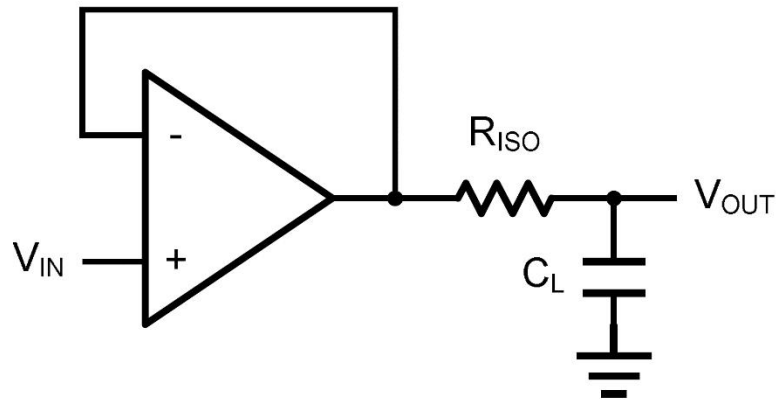
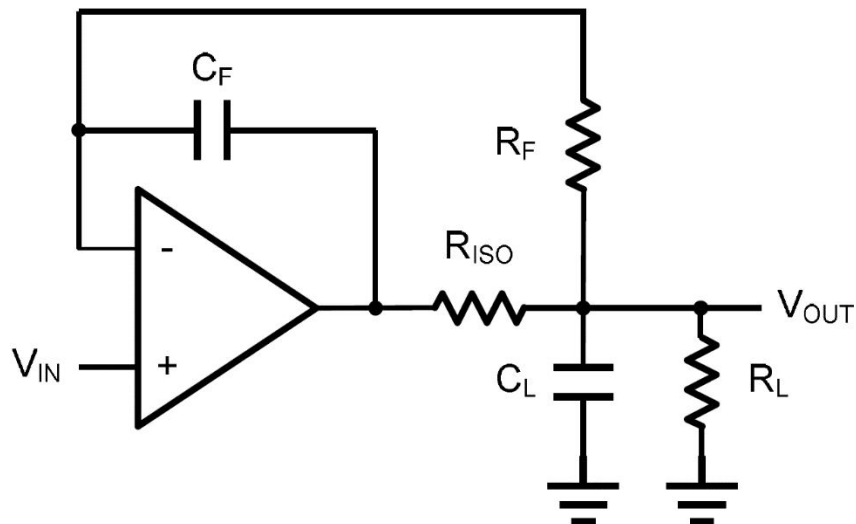

Figure 2. Indirectly Driving a Capacitive Load Using Isolation Resistor
Figure 3. Indirectly Driving a Capacitive Load with DC Accuracy
The CBMLM358 family is optimized for bandwidth and speed, not for driving capacitive loads. Output capacitance will create a pole in the amplifier's feedback path, leading to excessive peaking and potential oscillation. If dealing with load capacitance is a requirement of the application, the two strategies to consider are (1) using a small resistor in series with the amplifier's output and the load capacitance and (2) reducing the bandwidth of the amplifier's feedback loop by increasing the overall noise gain. Figure 2. shows a unity gain follower using the series resistor strategy. The resistor isolates the output from the capacitance and, more importantly, creates a zero in the feedback path that compensates for the pole created by the output capacitance.
The circuit in Figure 3 is an improvement to the one in Figure 2.  $R_F$  provides the DC accuracy by feed-forward the  $V_{IN}$  to  $R_L$ .  $C_F$  and  $R_{ISO}$  serve to counteract the loss of phase margin by feeding the high frequency component of the output signal back to the amplifier's inverting input, thereby preserving the phase margin in the overall feedback loop. Capacitive drive can be increased by increasing the value of  $C_F$ . This in turn will slow down the pulse response.